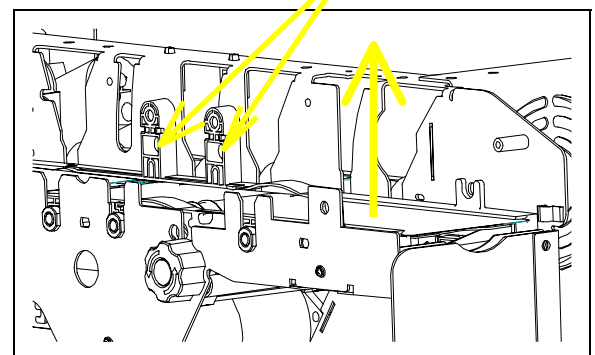

Figure 3
7. Remove (2) #8-32 mag-channel screws, (1) #8-32 screw for the mag-head wire clamp and remove mag-channel assembly. (Figure 3)